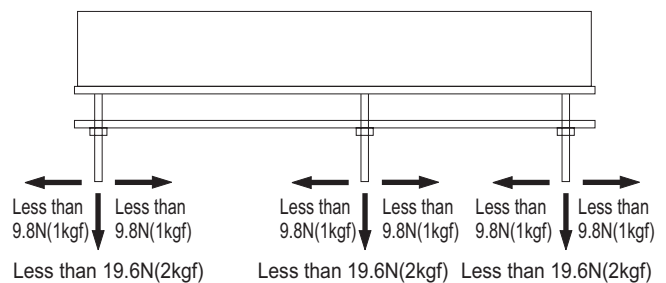

Fig.9.1 Stress on to the pins
■When too much stress is applied on the input/output pins of the unit, the internal connection may be weakened. As below Fig.9.1, avoid applying stress of more than 9.8N (1kgf) on the pins horizontally and more than 19.6N (2kgf) vertically.